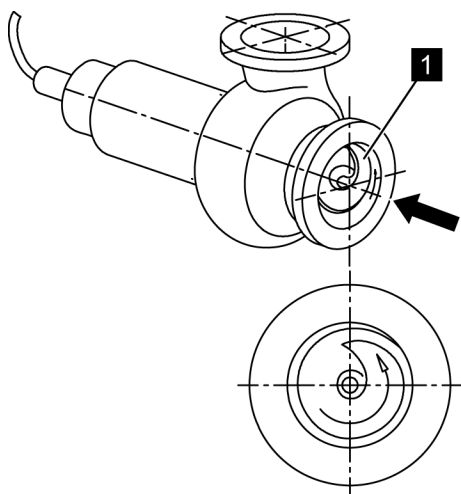
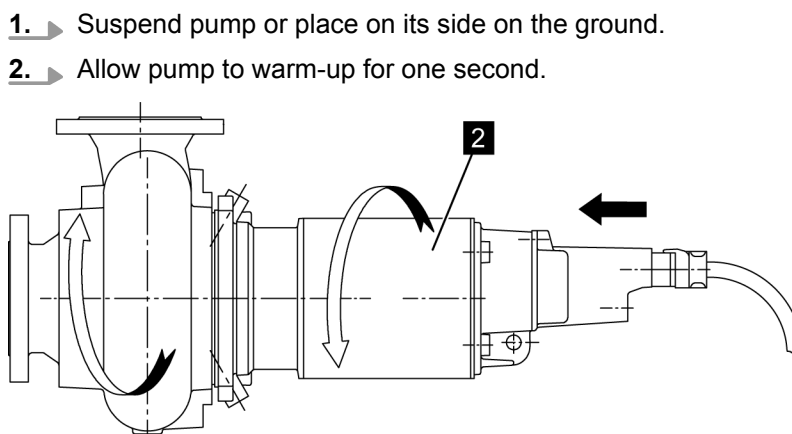

Fig. 31
Fig. 32
3. ➔ Ensure that rotational direction of impeller (1) is counter clockwise as seen from suction end (Fig. 31). The starting jerk must act counter clockwise as seen from the drive end of the motor (2) (Fig. 32).